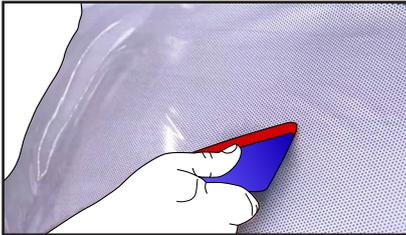

Figure 20
- › Immediately after the film application, run the felt-covered squeegee over the entire compound from the centre of the film towards the edges. This prevents the formation of bubbles. (FIG. 20)